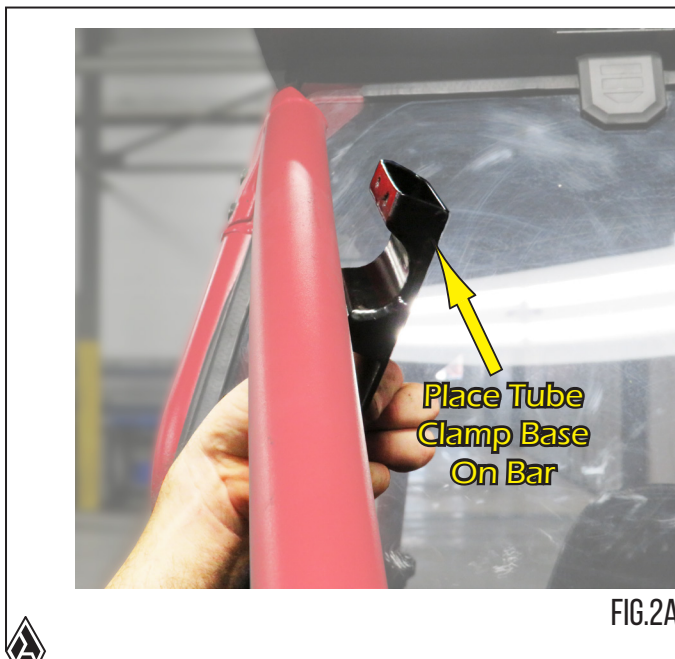

FIG.2A
2. **Fig.2a** shows installing the tube mount around the bar, and **Fig.2b** shows the Clamp portion of the assembly installed using **Item "E"** bolts (4 p cs) provided in your kit. Leave bolts a little loose at this point to make adjustments after all parts are assembled together. Repeat for opposite side.